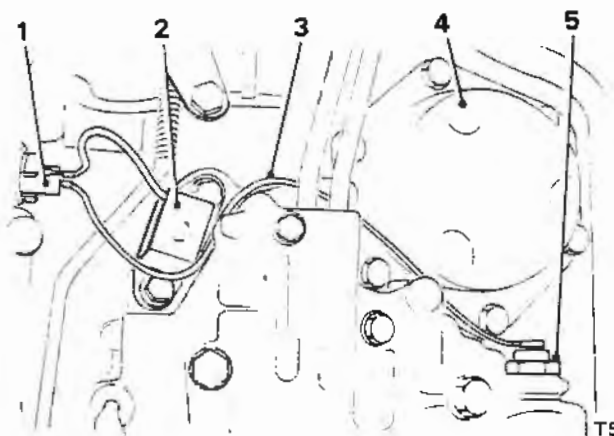

Figure 10 - Top Gear Pressure Switch and Wire Route
- 4 Connect the top gear pressure switch to the connector block lead GM 8626426 supplied between the switch and the large Lucar blade of the connector block. This lead must be routed as shown in Figure 10.